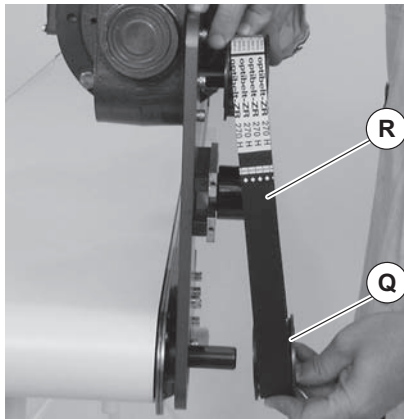

Figure 16
- c. Remove pulley (Figure 16, item Q) and timing belt (R).